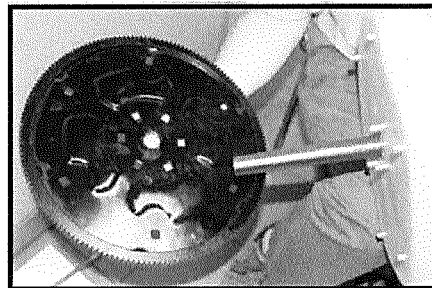

Fig.12: With drum on its side, slip mixing gear onto drum shaft and add nuts to secure assembly.
5. Slide mixing drum gear onto shaft. Bolt mixing drum gear, drum, and assembly together with matching nuts. DO NOT OVERTIGHTEN (Fig. 12)